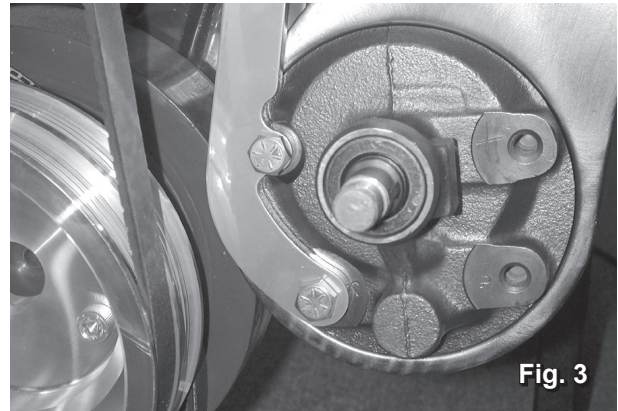
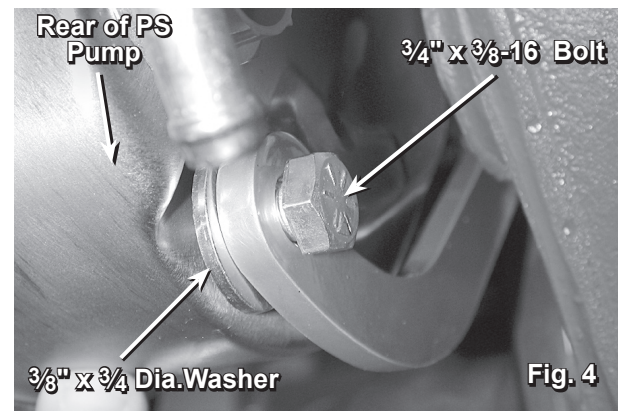
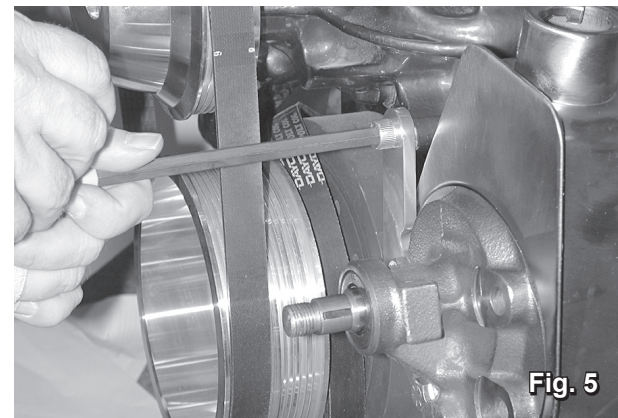

Fig. 3
Fig. 4
Fig. 5
3. Secure pump to lower support brackets using two (2) $\frac{3}{8}$ -16 x $\frac{3}{4}$ " hex head head bolts at the front bracket (fig. 3) and one (1) $\frac{3}{8}$ -16 x $\frac{3}{4}$ " hex head head bolt at the rear placing a $\frac{3}{8}$ " x $\frac{3}{4}$ " diameter washer between the bracket and the pump. (fig. 4) Snug down bolts at pump and at water pump (fig. 5).